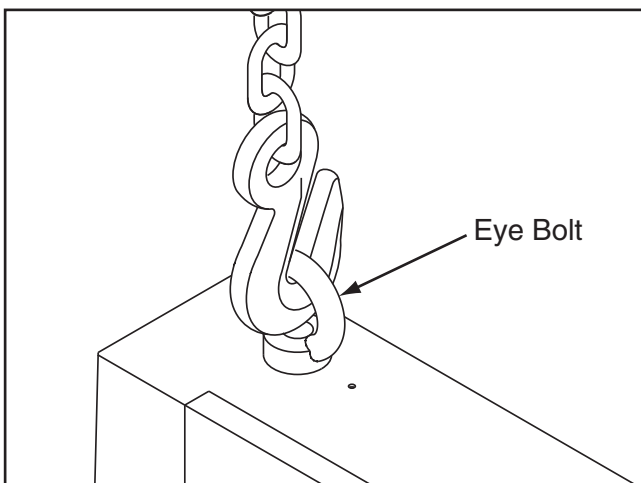

Figure 16. Lifting the bandsaw.
3. Install the eye bolt shown (see **Figure 16**), make sure it is threaded all the way in, then place the lifting hook through the eye bolt and lift the bandsaw slowly with a forklift.